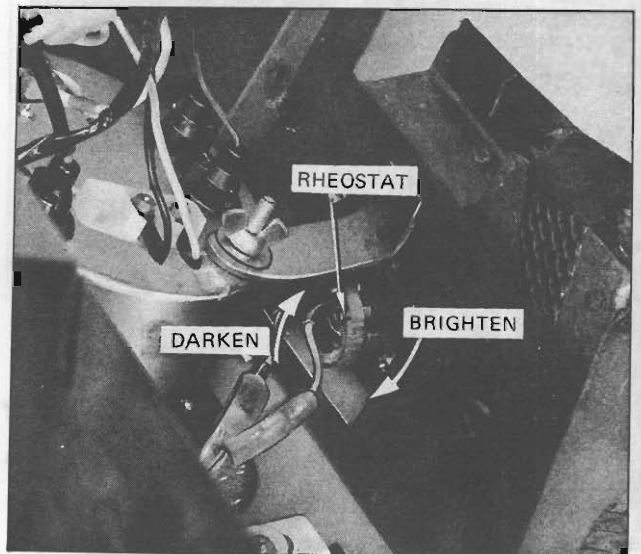

Fig. BE-23 Removing illumination control
ammeter and fuel gauge unit, remove the meter bracket, and remove hexagonal cross-headed screws [① and ② in Figure BE-23] from reverse side of the meter.